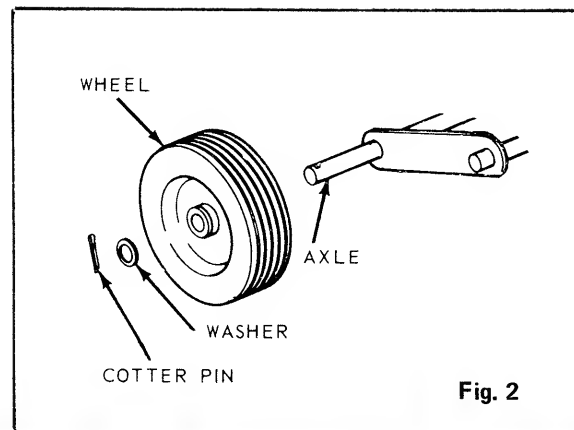

Fig. 2
2. Place the battery with the terminals to the rear of the mower. Hook both hold down rods under the battery case and place the battery hold down over the battery caps with the flared edge up as shown in Figure 2.
To assemble the cutting unit, lubricate the wheel bearings with multi-purpose automotive grease and place wheels on the axle. Add one washer to each wheel and secure with cotter pin. See Figure 2.
5. Have all six linkage arms towards the front of the unit. See Figure 2.